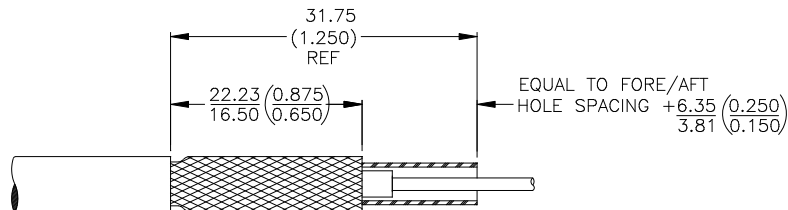

FIGURE 3
- Insert D-513 Barrier of correct size (see Table 1) under shield. Trim excess braid as required so that cable looks as shown in Figure 3.